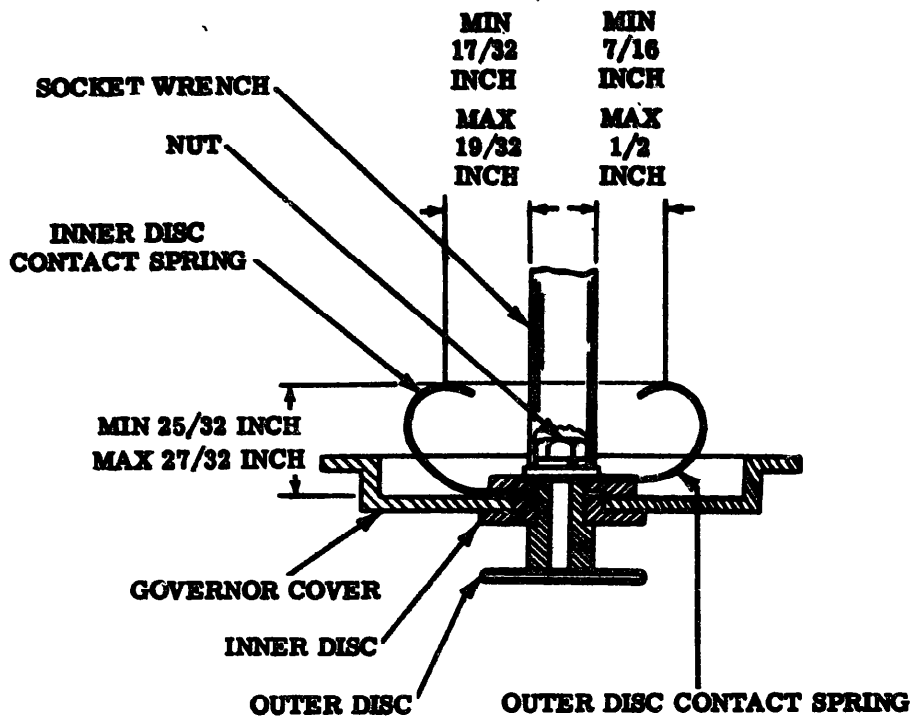

Figure 8- Governor Cover Contact Spring Disk Assembly
**(1) Contact Springs:** The distance from the inner surface of the governor cover to the highest point on the contact springs shall be minimum  $25/32$  inch, maximum  $27/32$  inch.
**To Adjust:** Bend the springs. (See Figure 8.)
**(2) Inner-disc Contact Spring:** With the TP135678 socket wrench placed over the nut which holds the contact springs in place, the distance from the outer surface of the wrench to a point where the TP95960 tape gauge, used as a ruler, touches the curved surface of the inner-disc contact spring shall be minimum  $17/32$  inch, maximum  $19/32$  inch.
**To Adjust:** Bend the spring. Recheck (1). (See Figure 8.)
**(3) Outer-disc Contact Spring:** With the socket wrench in position as in (2), the distance from the outer surface of the wrench to a point where the tape gauge touches the curved surface of the outer-disc contact spring shall be minimum  $7/16$  inch, maximum  $1/2$  inch. To gauge, place the end of the TP95960 tape gauge against the outer surface of the wrench so that the edge of the  $1/32$ -inch scale is resting against the curved surface of the outer-disc contact spring.
**(4) Governor-brush-spring-plate Bracket:** The inner surface of the bracket shall
brushes. Gauge by eye. When it is necessary to clean the discs, a KS-2423 cloth, wrapped around an orange stick and moistened with KS-19578, List 1 trichloroethane, shall be held on each disc while the motor is being rotated by hand and the brushes have been removed. If the discs are pitted or burned, a piece of 400A Alomite wrapped around an orange stick shall be held against each disc while the motor is being rotated by hand. Badly grooved discs shall be replaced. (See Figure 8.)